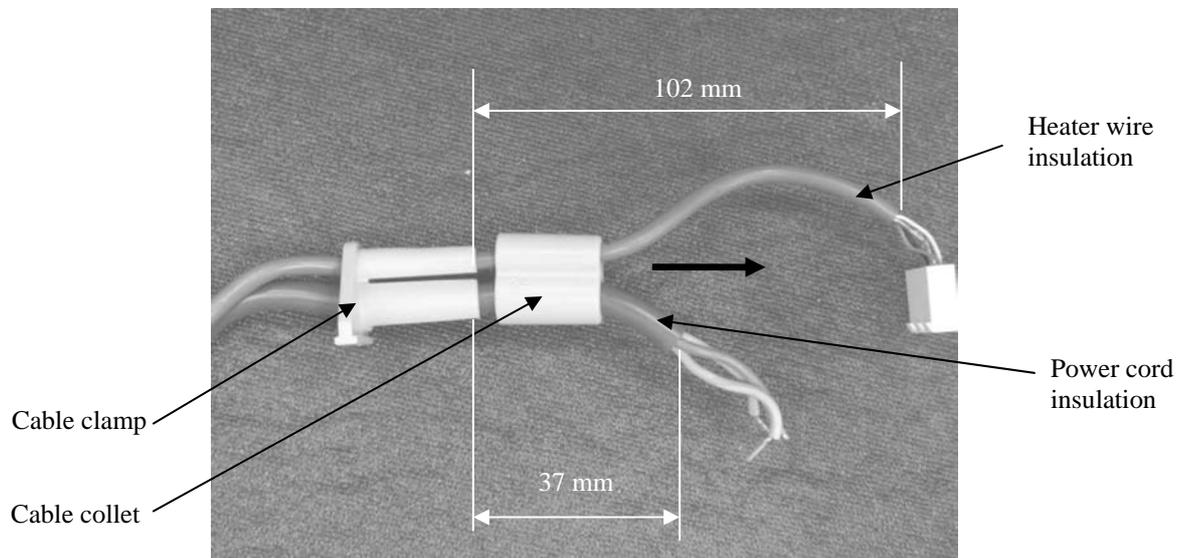

Figure 6.10: Showing the disassembly, assembly of the cable clamp
8. Leave approximately 102 mm of the heater-wire insulation protruding from the closed cable clamp, and 37 mm of the power cord insulation (Figure 6.10).